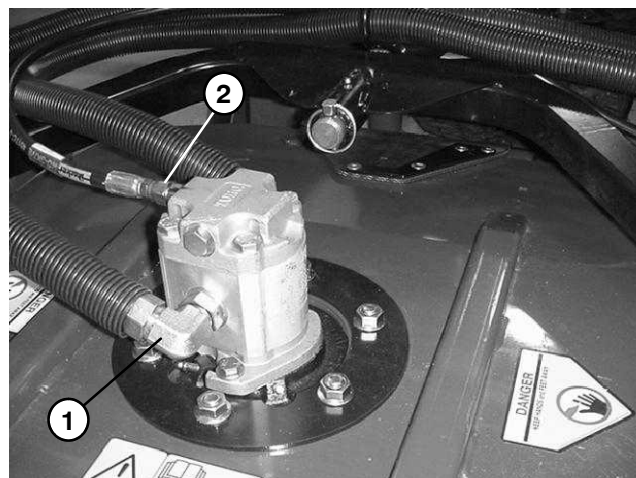

Figure 35
3. Disconnect pressure return hose from the motor to be tested (Fig. 35). Install flow tester in series with the motor and the disconnected return hose. Make sure the flow control valve on tester is fully open. (Fig. 36).